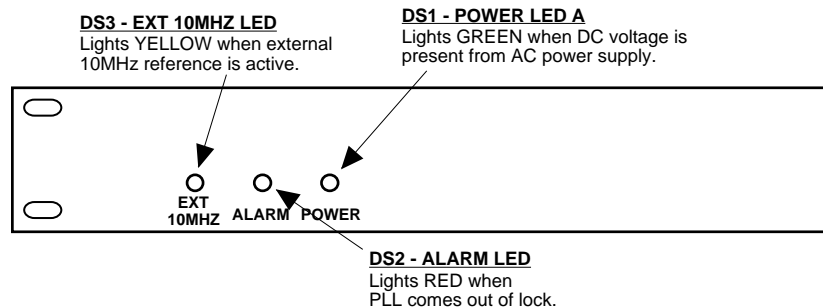

FIGURE 2.2 2116-25 Front Panel Controls and Indicators
- 4.) Be sure DS1 (green, DC Power) is on and DS2 (red, Alarm) is off (Figure 2.2).
- 6.) If EXT is selected or AUTO is selected and there is a 10MHz, 0 dBm signal at J2, check that DS3 (yellow, Ext 10MHZ) is on (Figure 2.2).